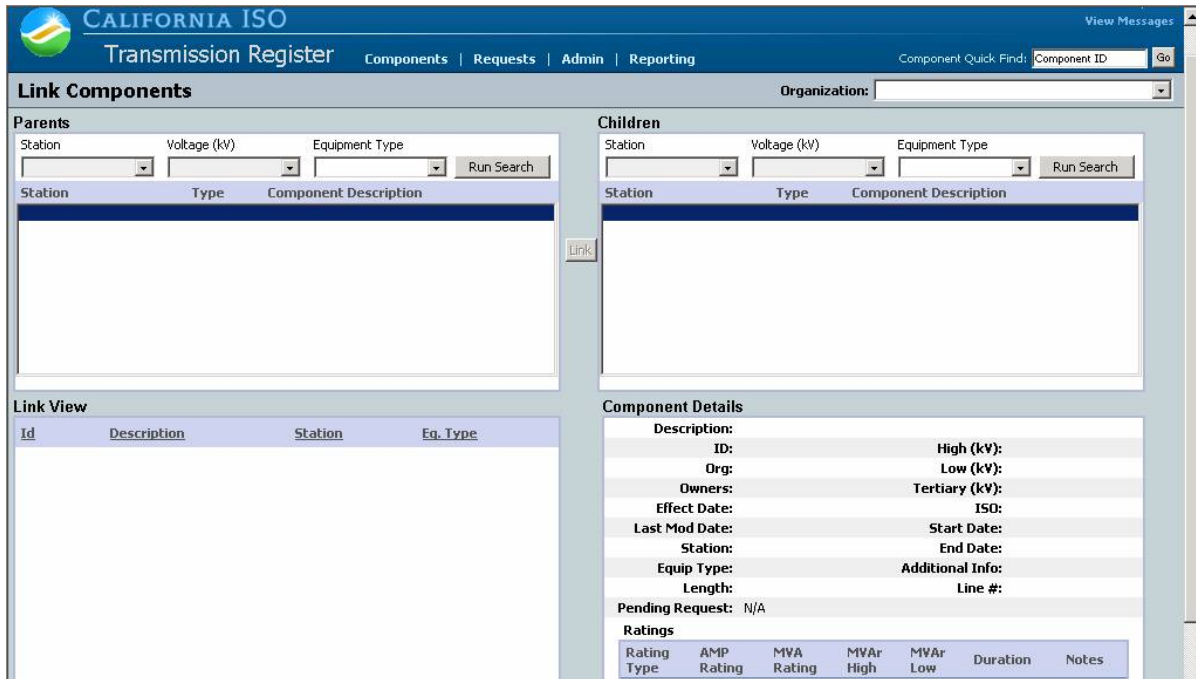

Figure 2. Link Components Screen
- **Click** on the Link Components hyperlink and the screen in Figure 2 loads.